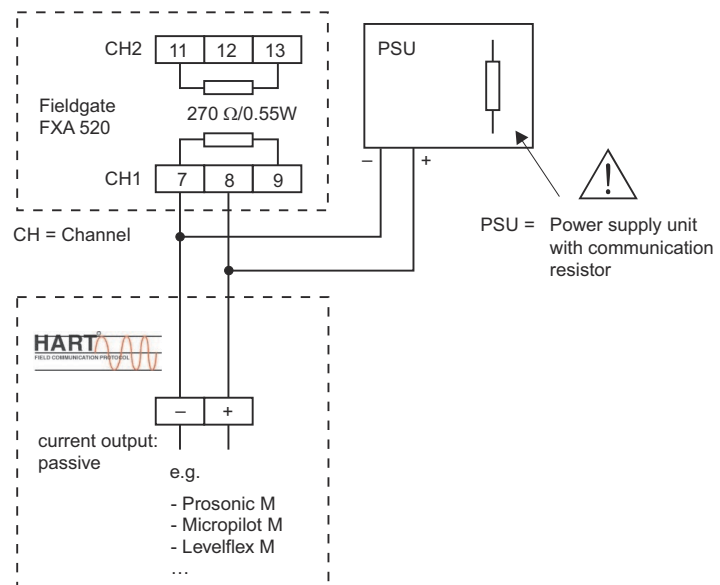

Fig. 4-6: Wiring for loop-powered HART devices, communication resistor in power supply
- For loop-powered devices and power supply with communication resistor, see Fig. 4-6